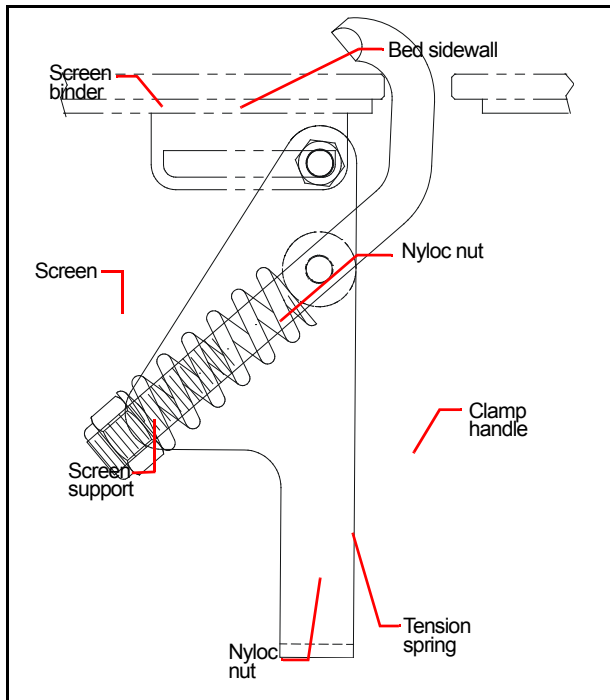

Figure 4-11 Toggle Clamp
The toggle clamp presses a metal binder on top of the screen to hold it in place (Figure 4-11). The clamp hook is inserted through a slot in the bed and the over the lip at the bottom of the binder. The clamp applies downward pressure on the binder, securing the screen.
6. Place the binders on top of the new screen with the open side toward the bed and the lip facing up from the bottom (Figure 4-11). Make sure the binder is positioned across the full length of the screen.